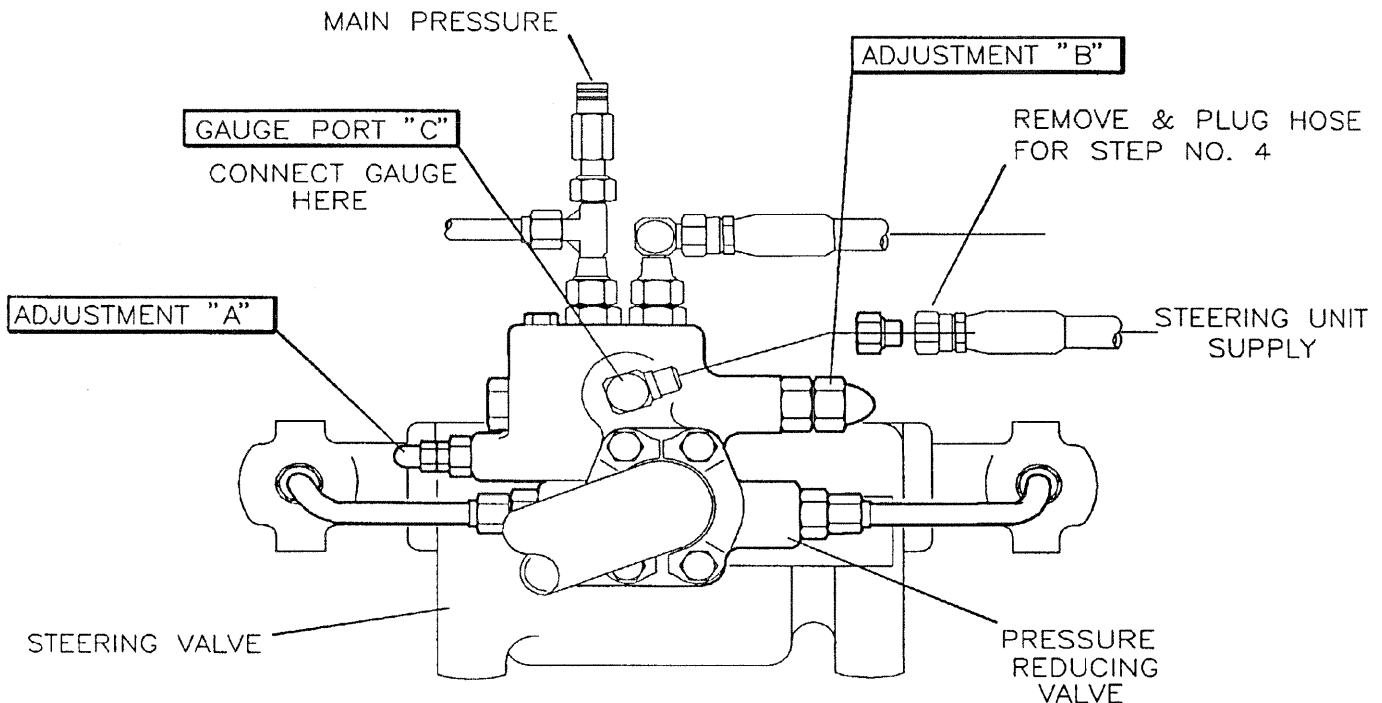

Fig. 1
2. Study Fig. 1 to identify the valve. Identify adjustment points "A" and "B" and gauge port "C".
3. Locate Adjustment point "A" (Fig. 1). This is the "cut-out" pressure relief. It must be temporarily disabled in order to adjust the pressure reducing valve (point "B"). Remove the acorn nut from adjustment point "A" and turn the stem 2 to 3 turns in.